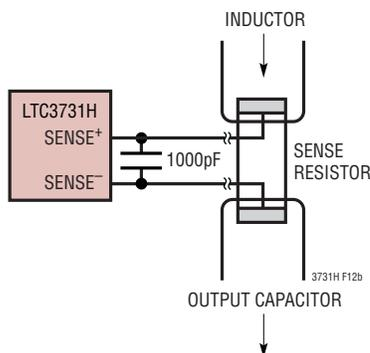

Figure 12. Kelvin Sensing R_{SENSE}
3) Are the SENSE[–] and SENSE⁺ printed circuit traces for each channel routed together with minimum PC trace spacing? The filter capacitors between SENSE⁺ and SENSE[–] for each channel should be as close as possible to the pins of the IC. Connect the SENSE[–] and SENSE⁺ pins to the pads of the sense resistor as illustrated in Figure 12.